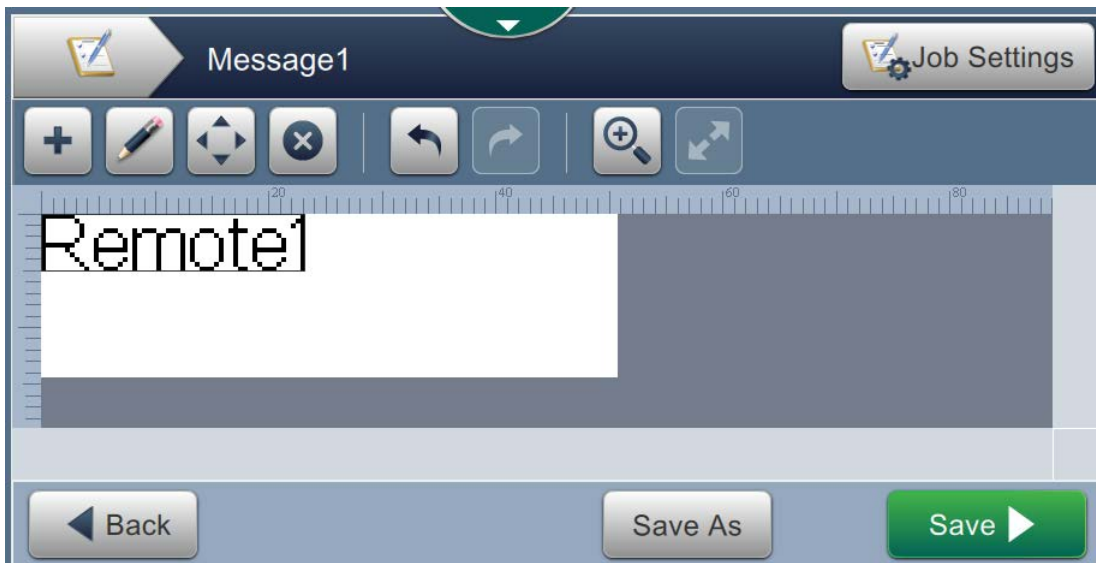

Figure 3-9: Job Editor Screen
9. The Job Editor screen appears as shown in Figure 3-9. Touch the '+' button to add the required fields to the existing message.
10. Once the required fields are inserted and updated, touch the **Save** button to save the message as shown in Figure 3-9 on page 3-6.